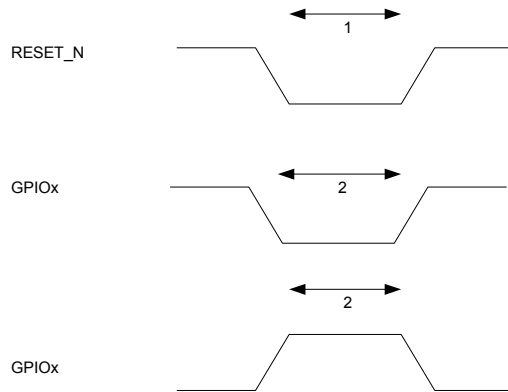

Figure 1: Control Inputs AC Characteristics
| RESET_N low width | 250 | | | ns | See item 1, Figure 1. This is the shortest pulse that is guaranteed to be recognized as a complete reset pin request. Note that shorter pulses may be recognized but will not lead to complete reset of all modules within the chip. |
| Interrupt pulse width | t _{SYSCLK} | | | ns | See item 2, Figure 1. This is the shortest pulse that is guaranteed to be recognized as an interrupt request. In PM2/3 the internal synchronizers are bypassed so this requirement does not apply in PM2/3. |